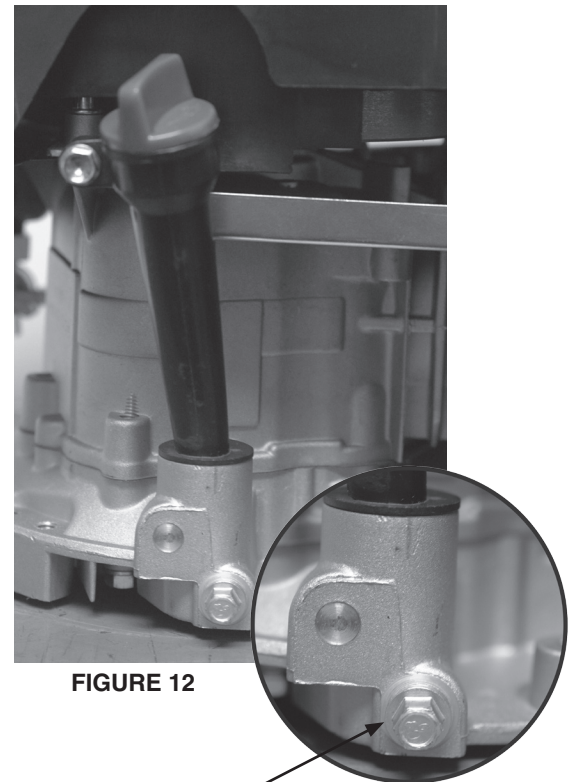

FIGURE 12
2. Remove oil drain plug and empty oil into suitable oil container. Dispose of oil properly. **SEE FIGURE 12.**